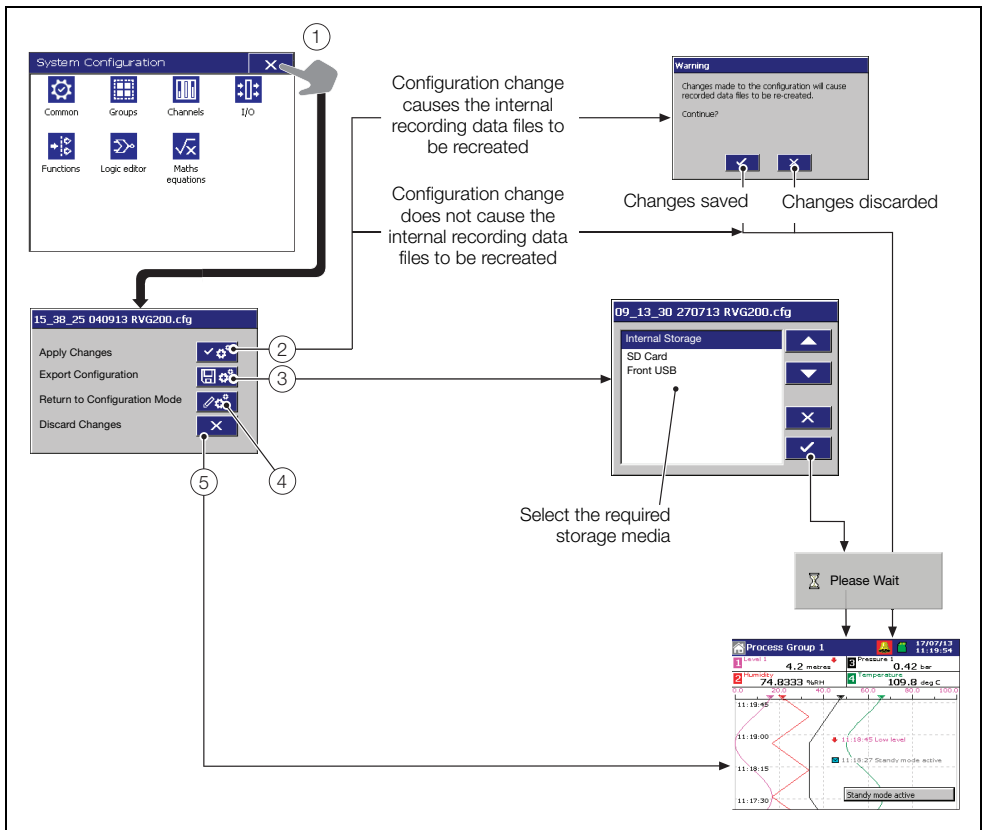

Fig. 7.7 Exiting configuration mode
Referring to Fig. 7.7, exit the **Configuration** level as follows:
- Changes to the date and time are effective immediately  in the dialog box is touched. Touch  in the dialog box to exit date and time setup without saving changes. Touching  when exiting the **Configuration** level (see Fig. 7.7, page 66) **does not** reset the clock to its previous setting.
Note. Changes to daylight saving are effective immediately a method is selected. However, if  is touched when exiting the **Configuration** level (see Fig. 7.7, page 66), the last saved daylight saving settings are restored.